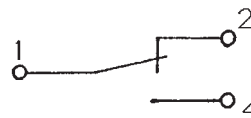

Fig. 4 – Signalling unit
b) Signalling unit (Fig. 4)
The signalling unit (Fig. 4) is designed as an independent assembly. It is mounted on the supporting plate 47; the gearings fitted under it are arranged as shown in the kinematic diagram (Fig. 8). The gearing is assembled so that, after loosening the lock screw 57, the sliding gear K3 can be moved to different levels (I, II, III, IV, V). Moving of the gear K3 changes the range of setting the signalling switches and the transmitter according to the electric actuator working stroke. The tables at the Figs. 8 and 9 show the ranges of setting for respective positions of the sliding gear K3.
is connected with the shaft 58 by an adjustable friction clutch. From this pinion the motion is scanned for driving the resistance or current transmitter. Arrangement of the cams and micro-switches of the signalling unit is shown in Fig. 4. The shoulders of the cams 38, 39 deflect the levers 42 or 43 which control the signalling micro-switch OPEN (44) or CLOSE (45). In adjusting the signalling and position-limit switches and the transmitter it is always necessary to reset the electric actuator output shaft to the position where changing-over of the micro-switches should take place or required position of the transmitter is to be reached.
In adjusting the signalling switches proceed as follows: loosen the screw 40 (for the CLOSE signalling switch SZ) or 41 (for the OPEN signalling switch SO) – Fig. 4). Then, rotate the cam 38 or 39 in the arrow direction, i.e. in the counter-clockwise sense and clockwise sense for the CLOSE signalling micro-switch and OPEN signalling micro-switch, respectively, until the micro-switch closes. In this position hold the cams and retighten the lock screws.